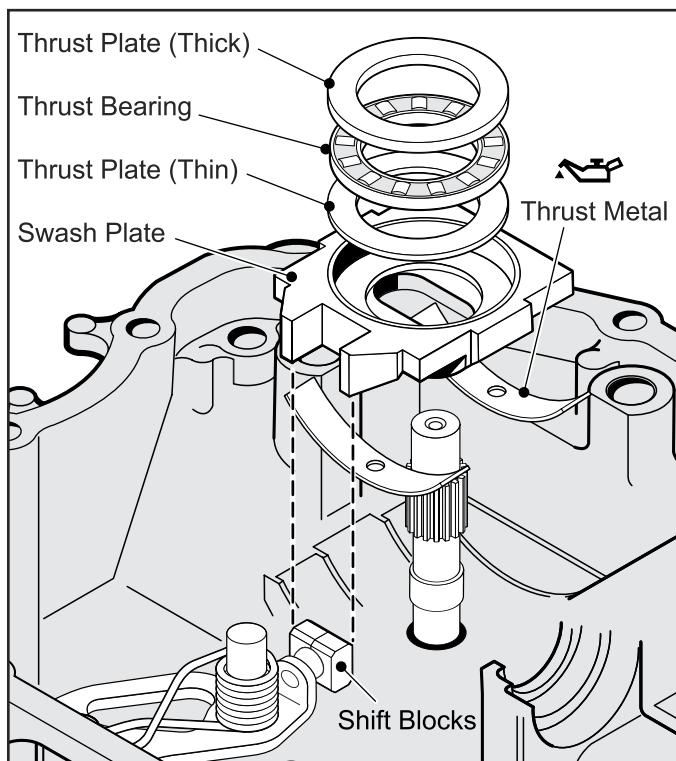

Fig. 20, Pump Shaft Assembly
1. Install Thrust Metals into the Upper Case (forming a cradle for the Swash Plate). (Fig. 20)
- ◆ Comprising of (2) Thrust Plates and (1) Thrust Bearing, the Thrust Bearing Group should be oiled and placed into the Swash Plate. Starting with the "thin" Thrust Plate followed by the Thrust Bearing and, finally; the "thick" Thrust Plate. (Fig. 20)
3. If not previously done, apply an ample amount of grease to the inside surface of the Shift Blocks and to the pivot ball; then, press the Shift Blocks to the pivot ball. The grease will help retain the Shift Blocks in position during installation and alignment of the Swash Plate Assembly. See "Control Shaft and Fulcrum Assembly" step 4 on page 21. (Fig. 20)
5. Place the Swash Plate Assembly over the Pump Shaft; then, into cradle, align with Shift Blocks. (Fig. 20)